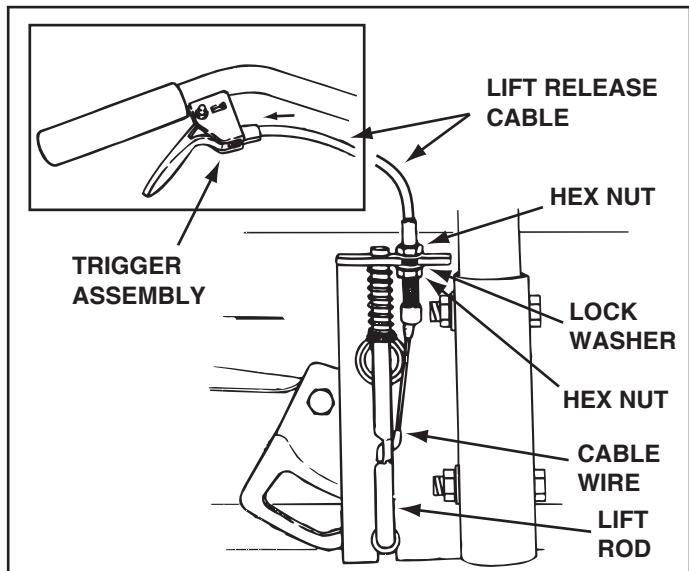

FIGURE 15
- Push the lift handle down into the locked position. Insert the end of the cable wire into the hole in the lift rod. Place the threaded fitting into the slot in the lift bracket, with one hex nut above and one hex nut and the lock washer below the slot. Tighten the nuts, adjusting them to eliminate slack in the cable wire. See figure 15. Refer also to the Service and Adjustments section on page 18 in this manual.